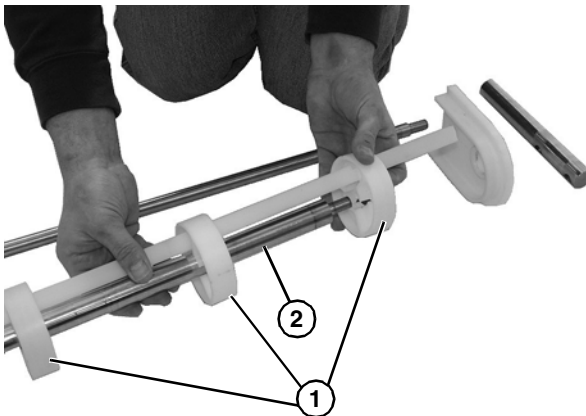

Figure 67
2. Slide all the idler pucks (Figure 67, item 1) along with alignment bar onto idler shaft (Figure 67, item 2).